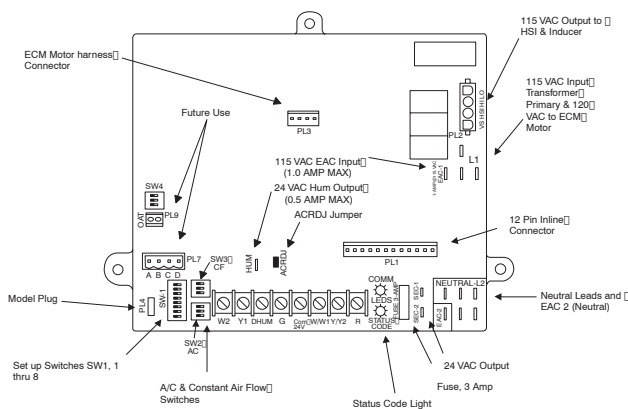

**Fig. 64 - Furnace Control for Variable Speed Condensing Furnace (HK42FZ022)**
- Turn Setup Switch SW1-2 on furnace control ON. (see Fig. 64.)